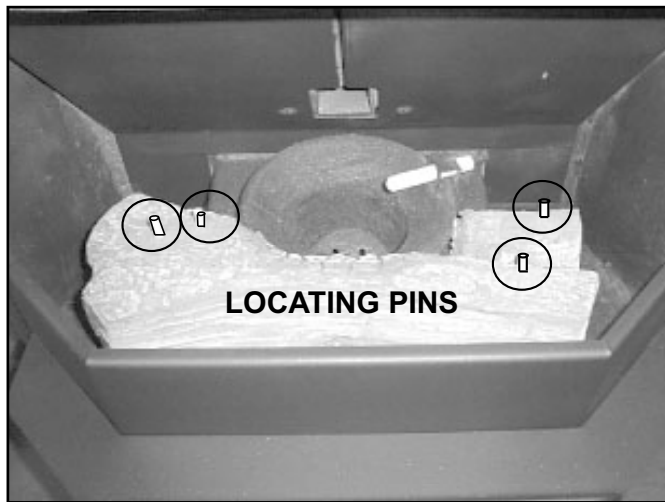

Figure 24.1
1. Place the front log in first as shown in **Figure 24.1** charred area surrounding firepot.